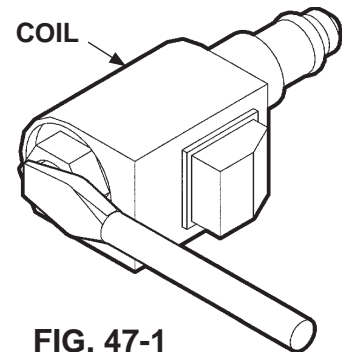

FIG. 47-1
1. Check if solenoid valves are constantly energized by touching a screwdriver to the top nut of the solenoid (**FIG. 47-1**). Try pulling the screwdriver away from the solenoid. If the solenoid nut attracts the screwdriver (magnetically) without pushing the toggle switch, the control circuit is operating incorrectly. Check if toggle switch, wiring or coil are faulty.